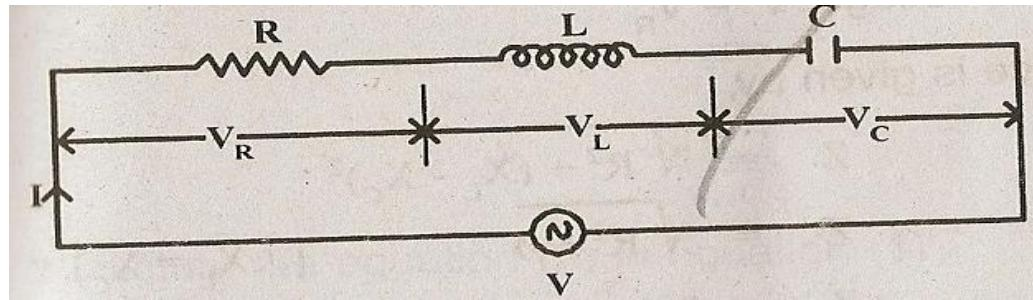

Fig. 2.38(a)
In a series resonance circuit, resistor (R), inductor (L) and capacitor(C) are connected in series across a sinusoidal voltage of variable frequency source. An R-L-C series resonance circuit is shown in the fig.2.38 (a).